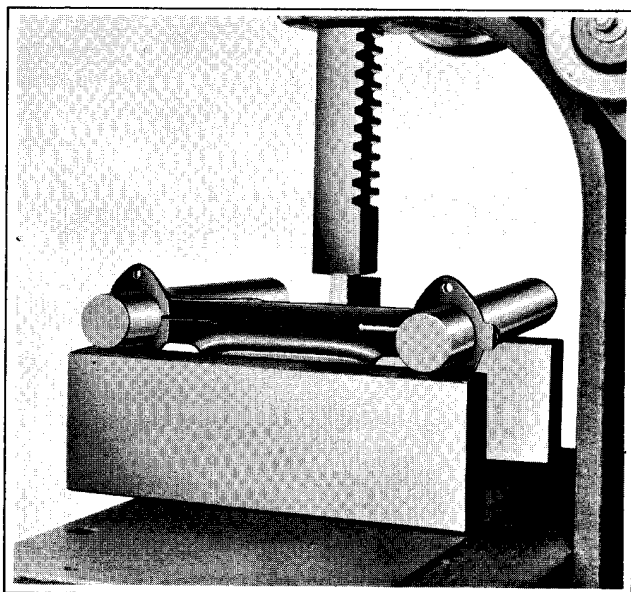

Figure 2-29. Correcting Bracket Bow
1. Insert the two 1-5/8 in. x 12 in. bars in fork bracket and secure with two clamping studs. Sometimes the bracket is so badly bent that the bars cannot be inserted. In this case, press the bars into place with an arbor press, then press on the front edge of bracket to correct the "bow" distortion as shown in Figure 2-29.
Reference to vertical and horizontal centerlines applies to bracket and fork stem as positioned on arbor press (see Figure 2-29).